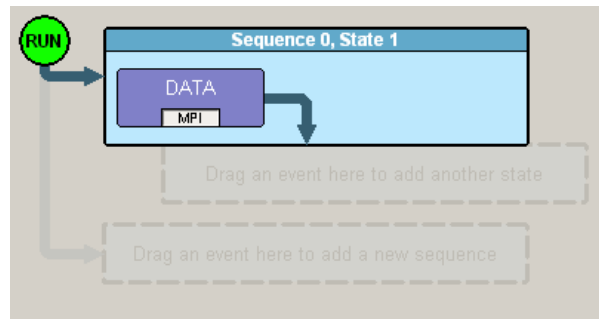

Figure 7.33 Example 5: Dragging to the Second State Cell
Step 7 Drag-and-drop the Timer button into the second cell in the Main Display area (Figure 7.33).